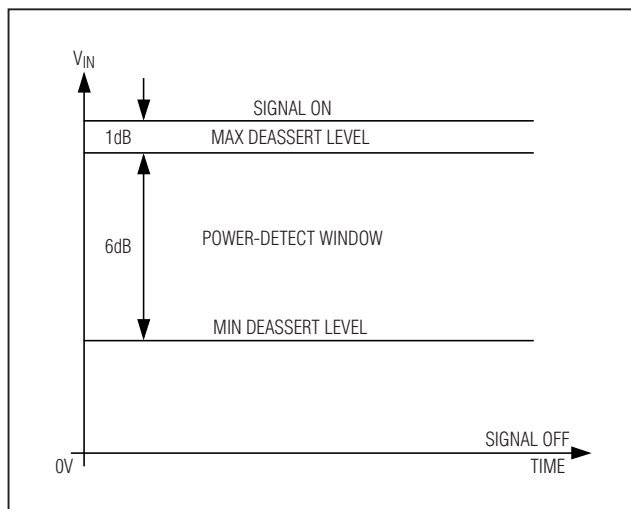

图2. LOS解除报警门限设置，比最小接收灵敏度低1dB (针对所选 $R_{TH}$ )
**Note 8:** The signal at the input is switched between two amplitudes, Signal\_ON and Signal\_OFF, as shown in Figure 2.